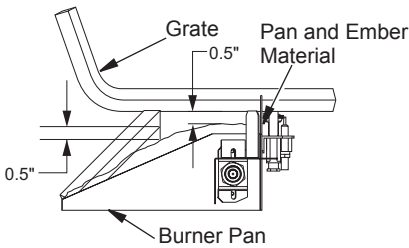

Figure 22 - Pan and Ember Material Clearances
4. Place just enough to cover the entire surface and leave about a 1/2 inch gap under the lower grate members to allow air to flow (see Figure 22, page 14).